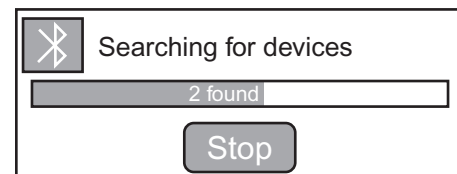

Fig. 9
3. Search for devices (Fig. 9).